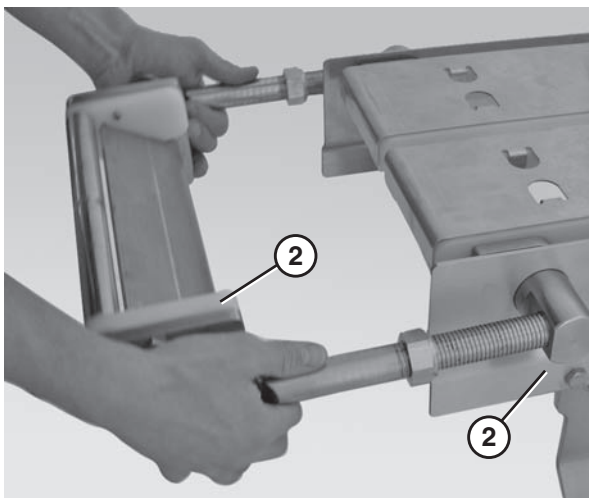

Figure 75
2. Slide the nose bar tail assembly (**Figure 75, item 1**) out of the take up blocks (**Figure 75, item 2**).